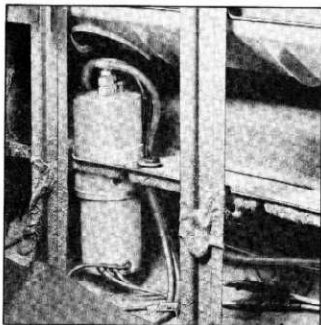

Fig. 61—Hydraulic Motor and Pump Installation
2. Remove cover plate from right side of folding top compartment bottom panel (fig. 61).